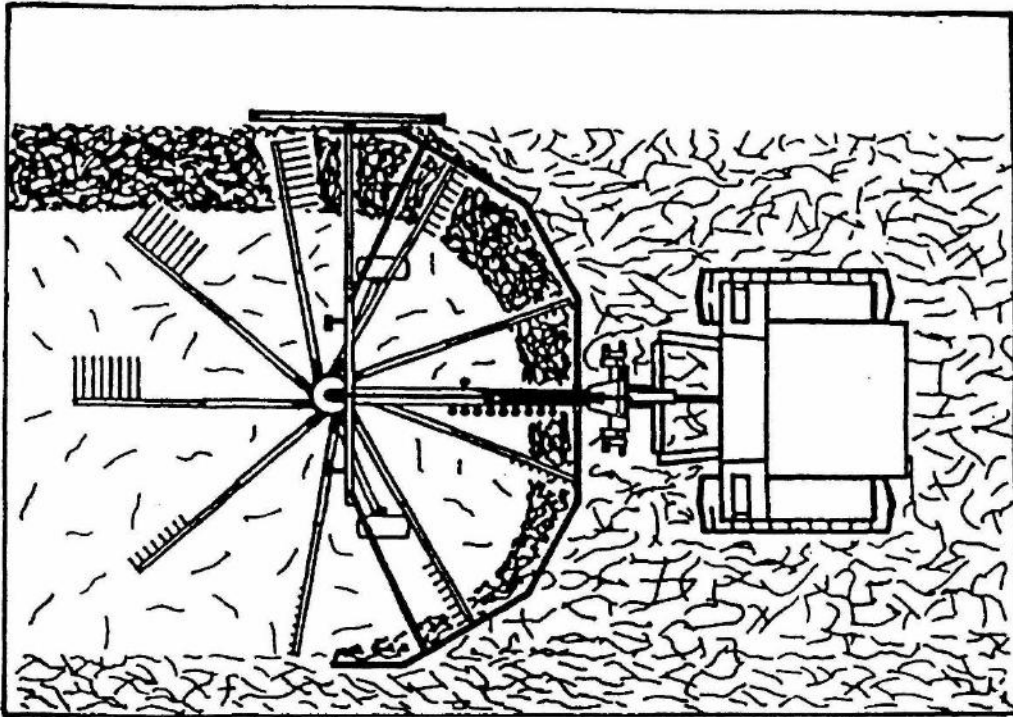

Fig. 17
- teeth set to excessive height over the field surface - causes the hay rake to leave an unraked crop at the entire working width, as shown in fig. 17.